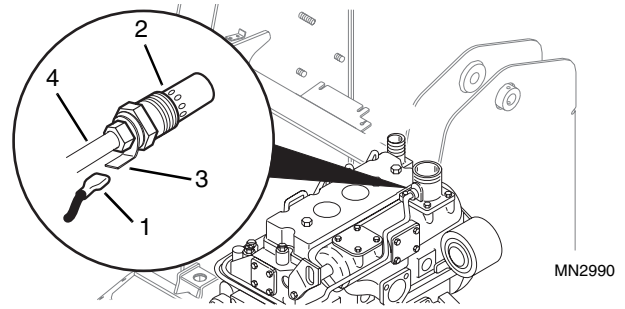

Figure 8-27 Thermo Start Plug
1. Check the white/brown thermo start wire #4 (Fig. 8-27, 1) for power with the ignition switch in the THERMO START position.
2. Using an ohmmeter or a continuity tester, test the electrical coil of the thermo start plug (Fig. 8-27, 2). Connect the leads to the electrical terminal (3) on the plug and the plug housing (2).
3. Have an assistant crank the engine, or start and run at low idle. Slowly loosen, but DO NOT remove the fuel line (Fig. 8-27, 4) at the thermostart plug (2). Ensure that fuel, free of air comes from the fitting. Shut the engine OFF, and tighten the fitting.
2. Unlock and open rear engine compartment door and lift engine cover to access the thermo start plug (Fig. 8-27, 2) on the induction manifold.
3. Disconnect wire (Fig. 8-27, 1) at electrical terminal (3) of thermo start housing and disconnect fuel line (4).
4. Remove thermo start plug (Fig. 8-27, 2) from induction manifold.
1. Install the thermo start plug (Fig. 8-27, 2) into the induction manifold and torque to 23 lb/ft (31 Nm).
2. Reconnect the harness electrical wire (Fig. 8-27, 1) to the terminal (3) on the thermo start housing.
3. Reconnect and bleed air from the fuel line (Fig. 8-27, 4). Refer to Section 10.9.3, "Bleeding Fuel System."